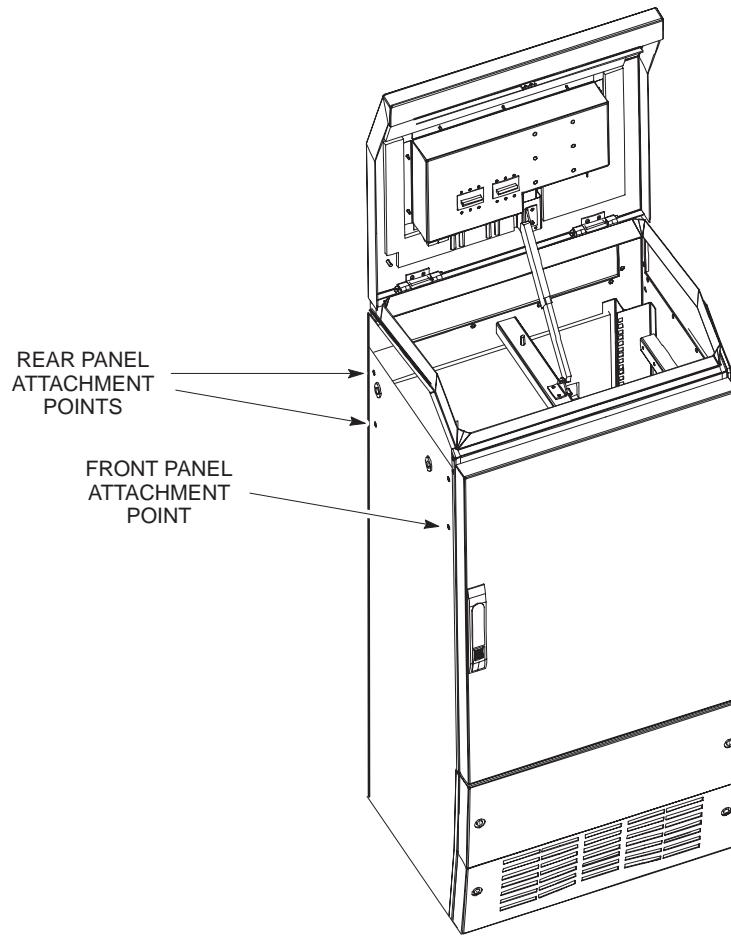

Figure 4-6 Shroud attachment points on the auxiliary equipment housing
5. Adjust the position of the second cabinet or AEH, if necessary, so that its side is flush against the sides of the shroud and the bolt holes identified in Figure 4-2 and Figure 4-6 are aligned. Bolt the rear and front panels of the shroud to the side of the housing through these holes.
Figure 4-6 shows the shroud attachment points on the auxiliary equipment housing.